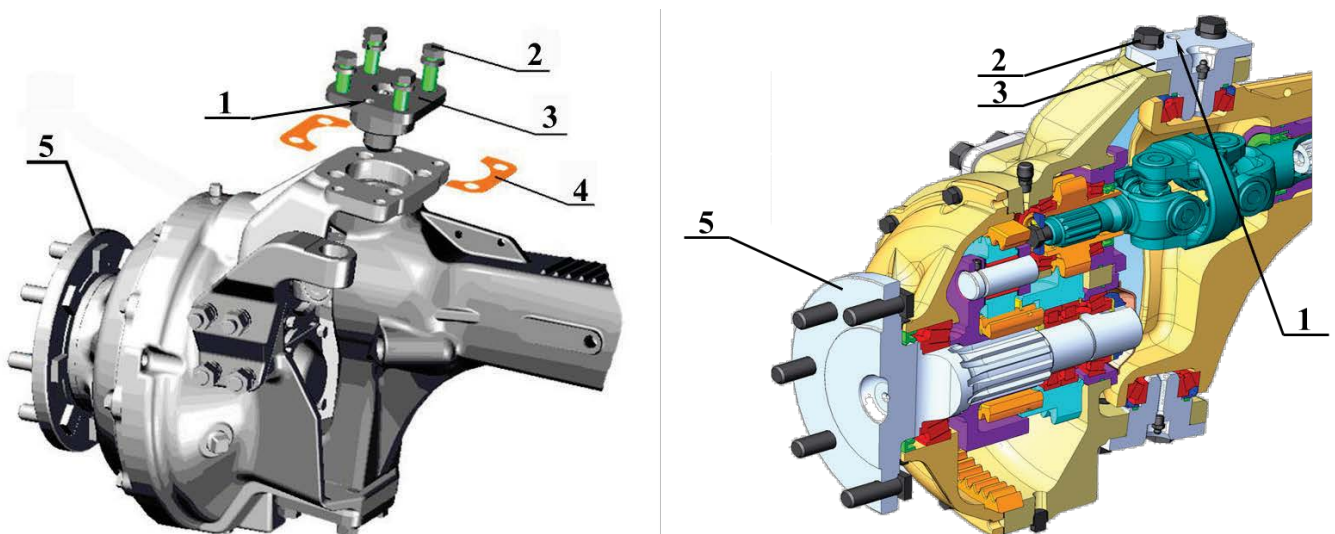

Figure 8.47
### 2. Bearings of Pivot Axle (3): (fig.8.47)